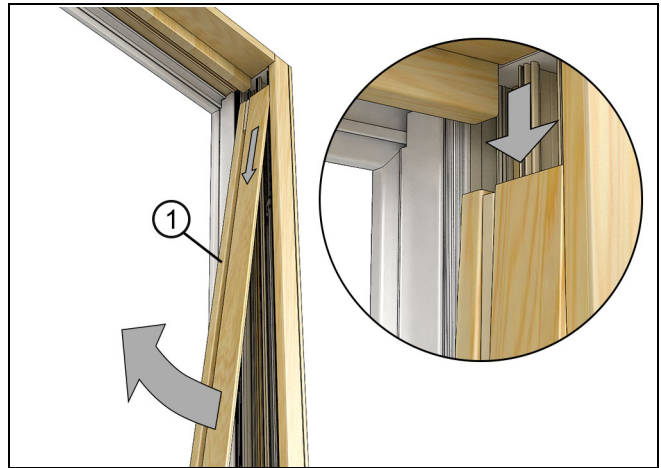

Figure 30
3. Once cover is released, carefully pull down on it to remove it from the head jamb parting stop. See Figure 30.